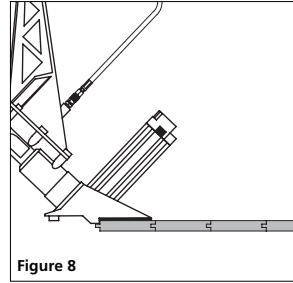

Figure 8
3. Place the tool on the floor as shown in Figure 8 with the shoe plate resting on the racked floor board. Make sure the fastener ejection nozzle is firmly placed against the board tongue.